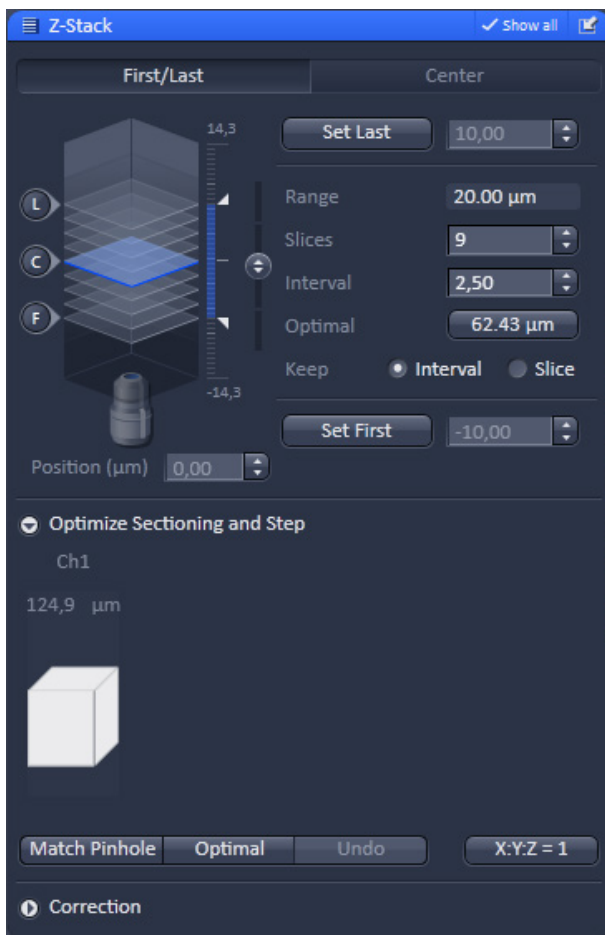

Fig. 440 Z-Stack tool
- The **Optimal Interval** box of the **Optimize Sectioning and Step** submenu of the **Z-Stack** tool in **Show all** mode within the **Multidimensional Acquisition** tool group simultaneously displays the depth resolution corresponding to the pinhole diameter (see Fig. 440).